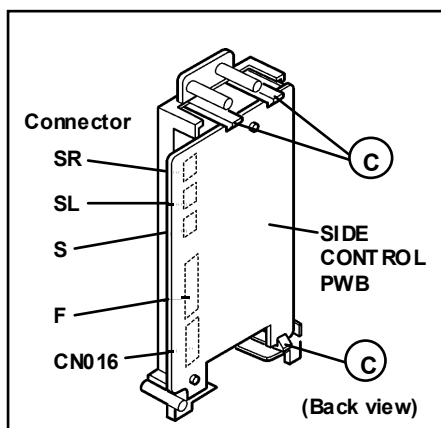

Fig. 2
3. Disconnect the connector "SR", "SL", "S", "F" and "CN016" as shown in Fig. 2.
1. Remove the 3 claws **C** from back side of the side control jack assembly as shown in Fig. 2.